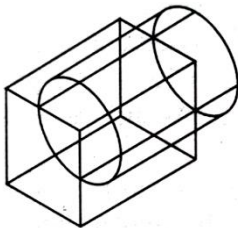

Figure 1
(b) Figure 1 shows a block (A) and a cylinder (B) while constructing a model. Sketch the result of (i) difference $A-B$, (ii) intersection $A \cap B$ Boolean operations on the model. **04**